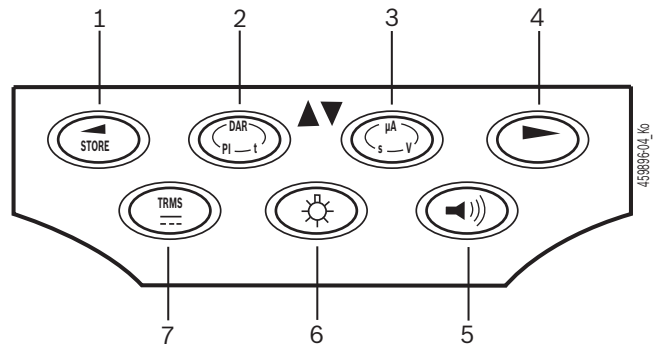

Fig. 3: FSA 050 function keys
LCD background illumination can be selected when the FSA 050 is switched on (fig. 3, pos. 6). The background illumination goes out automatically after 20 seconds.
The buzzer (fig. 3, pos. 5) can be activated for continuity measurement. The symbol appears on the LCD (fig. 5, pos. 4).
- ⓘ With a Bluetooth communication, **bc** appears (fig. 5, pos. 2) on the LCD display for approx. one second after pressing the selection button ► (fig. 3, pos. 4).